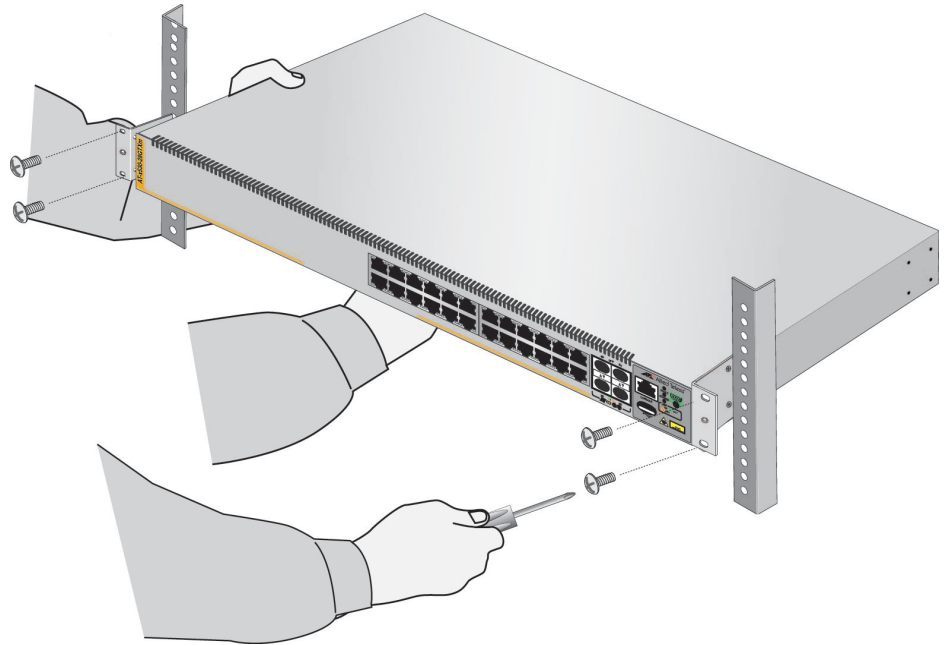

Figure 30. Installing the Switch in an Equipment Rack
3. Have another person hold the switch at the desired location in the equipment rack while you secure it using four standard equipment rack screws (not provided). Refer to Figure 30.